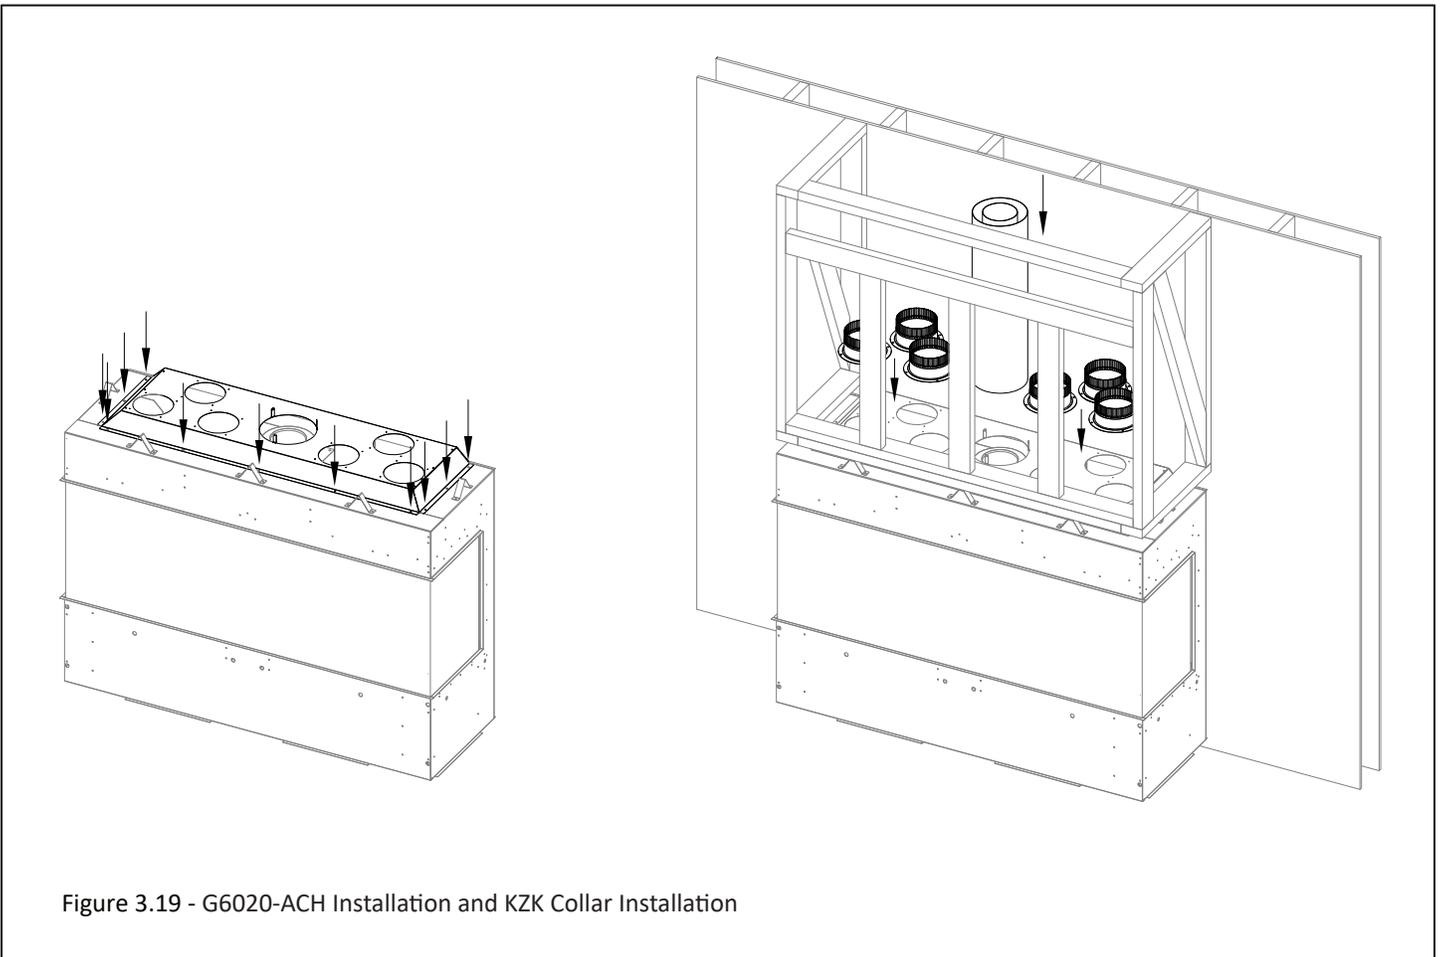

Figure 3.19 - G6020-ACH Installation and KZK Collar Installation
Important: You must order a (1) G6020-ACH with your KZK-056 or KZK-1510 and KZK-610. The G6020-ACH attaches to the fireplace. See Figure 3.19.
Note: Figure 3.19 shows a single sided installation. Your framing may look different depending on the installation option you have chosen.